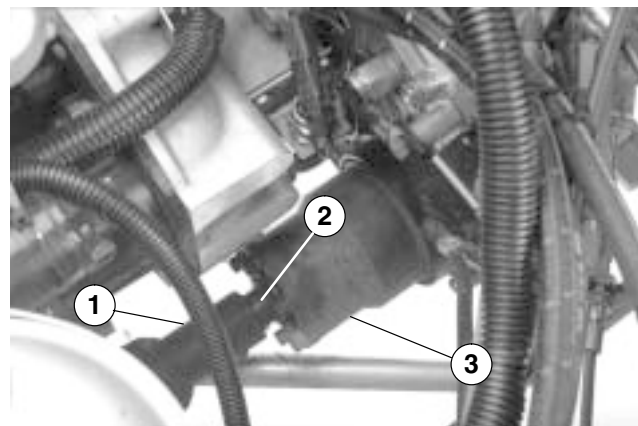

Figure 69
4. Slide slip yoke towards the bidirectional clutch. Pull slip yoke off the clutch shaft (Fig. 69).
1. Slide slip yoke onto clutch shaft (Fig. 69).